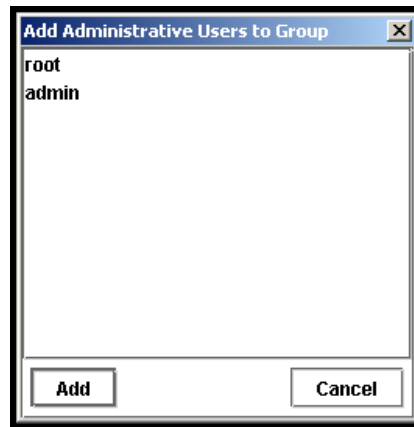

Figure 103. Adding an Administrative User to a Group
1. Click Add in the Users section. The Add Users window opens with a list of administrative users, shown in Figure 103.